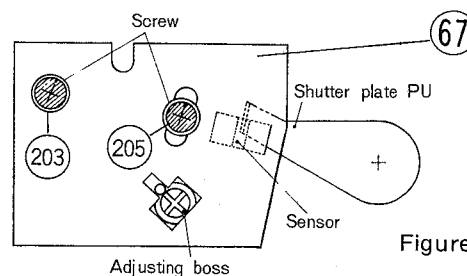

Figure 24
4. Slightly loosen the two Screws, (203) and (205), which fasten the Phono PWB Assy (67). (Fig. 24).
5. Turn the adjusting boss counterclockwise with the screw-driver (Fig. 24).
4. Slightly loosen the two Screws, (203) and (205), which fasten the Phono PWB Assy (Fig. 24).